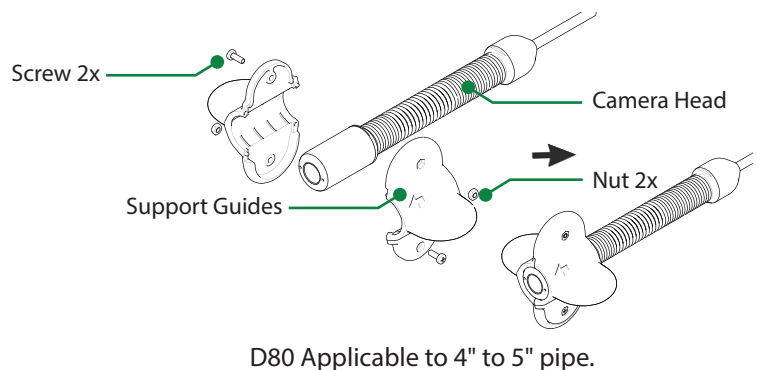

FIG. 10
- 2. Install 80 support guides (Figure 10).** Mount the 80 support guide onto the stainless steel camera head. Then tighten the screw with a screwdriver.